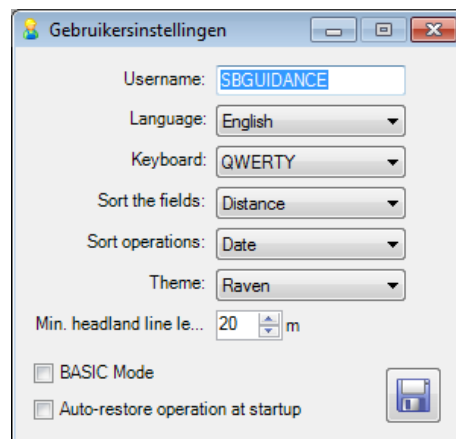

Figure 5 User settings
7. Go to Settings > User to open the User settings (Figure 5). Username is the name of the customer. Theme should be *Raven* on a Viper 4.